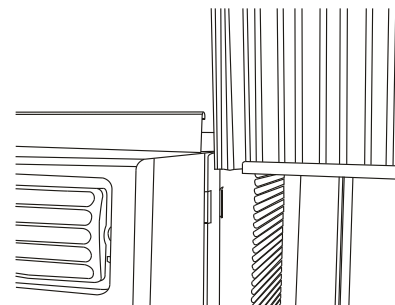

Fig.2
B. Slide the free ends of the accordion panel directly into the holding slot on the side of the air conditioner cabinet as shown in Fig. 2. Slide the panel down all the way and make sure it sits securely inside the channel.